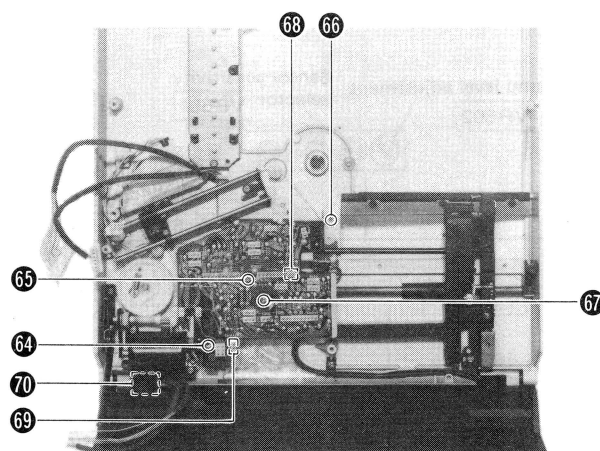

Fig. 17
6. Remove the setscrews 64 ~ 66 of the tonearm drive plate assembly, and disconnect the lead wires from the clamper. (See Fig. 17)
7. Remove the setscrew 67 of the arm motor drive P.C.B. the connector 68 (CN303) and 69 (CN301); then the arm motor drive P.C.B. can be removed. (See Fig. 17)
8. When removing the logic control P.C.B. completely, remove the body cover and two connectors (CN201, CN202) of the drive P.C.B.; detach the bushing 70 of the upper cabinet; then the logic control P.C.B. can be removed. (See Fig. 17)